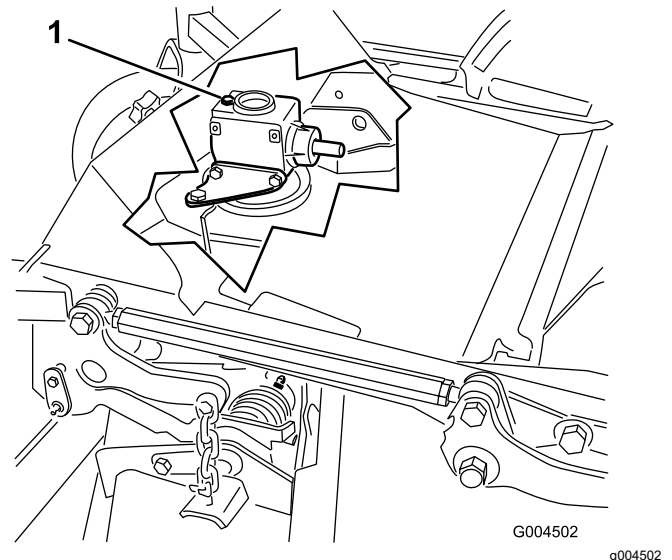

Figure 37
6. Remove the dipstick/fill plug from the top of the gearbox and make sure that the lubricant is between the marks on the dipstick (Figure 37).
6. Remove the dipstick/fill plug from the top of the gearbox (Figure 37).